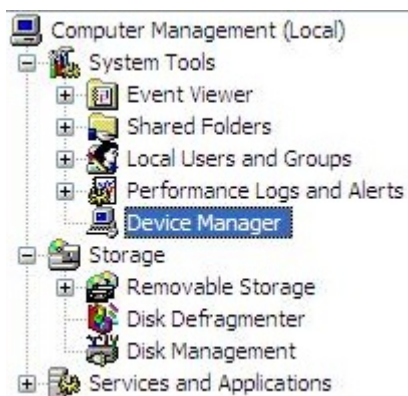

Figure 3. Windows XP
2. Click *Device Manager* under Computer Management→System Tools (refer to Figure 3). The Device Manager window displays a list of hardware devices installed on your computer and allows the properties to be set for each device.